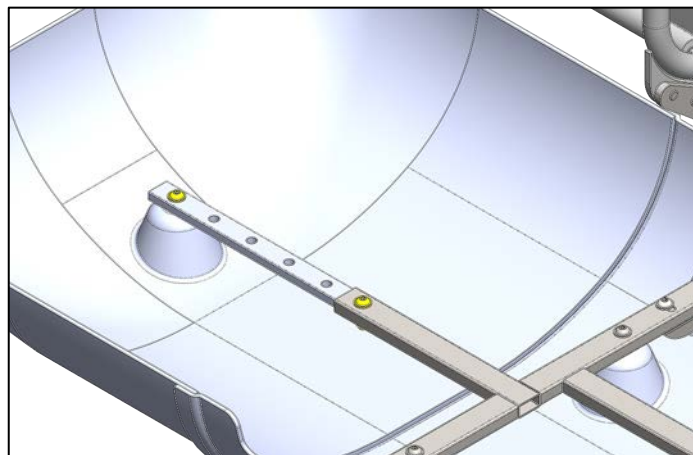

Fig.6
- Secure in place using the M8x20 bolts, washers and nuts. (highlighted in Figure 6).